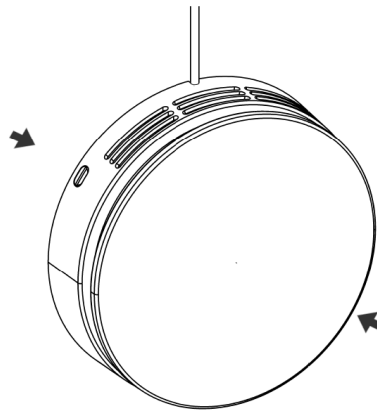

Figure 22 - Press down on the spring catches
3. Press down on the spring catches to make them release, see Figure 22 below.